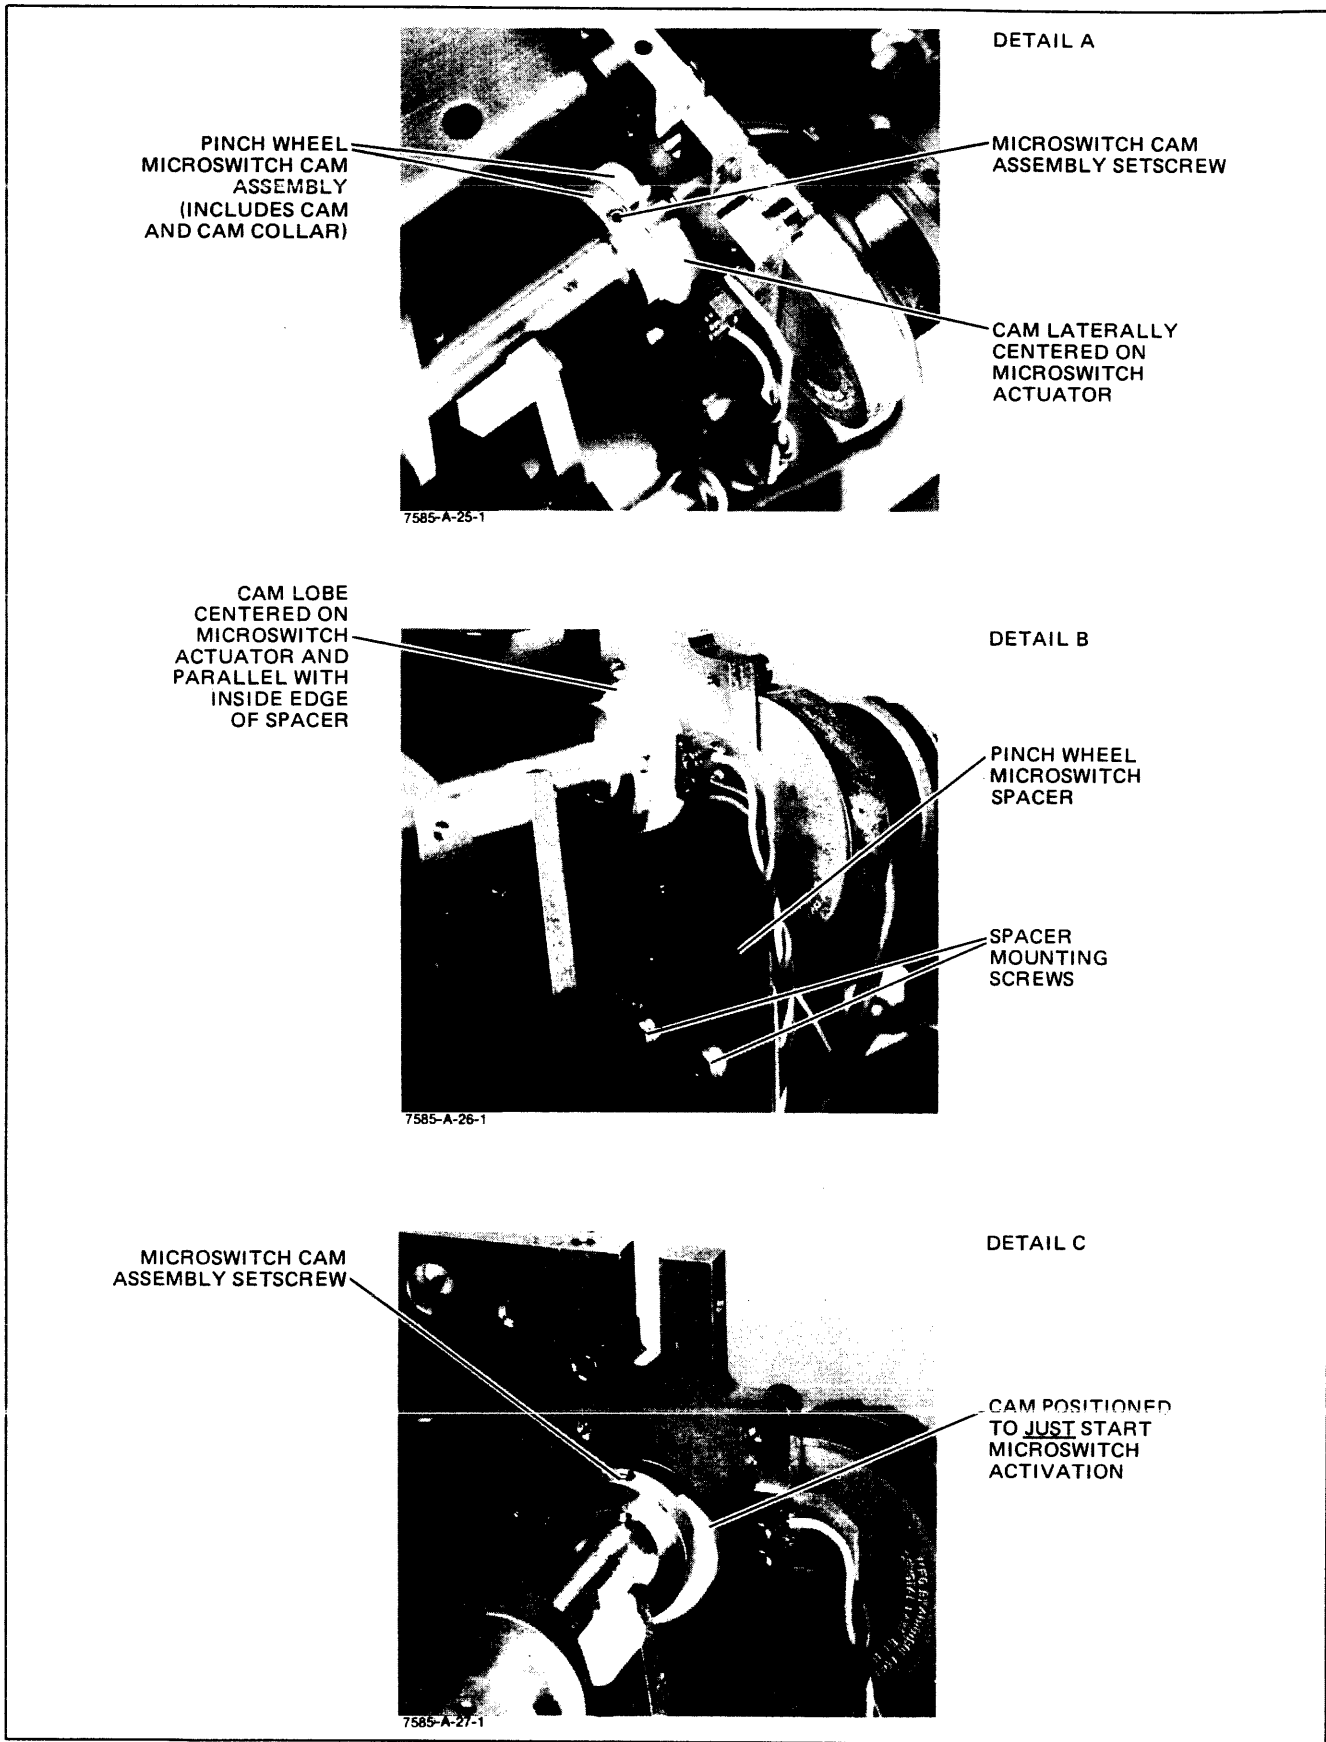

Figure 3-17. Pinch Wheel Adjustment
- d. Using a 1/16 inch Allen wrench, loosen the pinchwheel microswitch cam assembly setscrew until the cam assembly is *just* free to rotate. See Figure 3-17, Detail A.
- e. Loosen the two pinch wheel microswitch spacer mounting screws until the spacer is *just* free to move. See Figure 3-17, Detail B.
- centered on the cam. See Figure 3-17, Detail A. Tighten the cam assembly setscrew.
- g. Manually rotate the pinch wheel camshaft until the pinch wheel microswitch cam lobe is approximately centered facing the switch and in a line parallel to the near edge of the microswitch spacer. See Figure 3-17, Detail B.
- l. Rotate the cam assembly until the setscrew is positioned at the top of the camshaft and facing straight up. Position the cam assembly such that the microswitch is just ready to activate. Tighten the cam assembly setscrew. See Figure 3-17, Detail C.